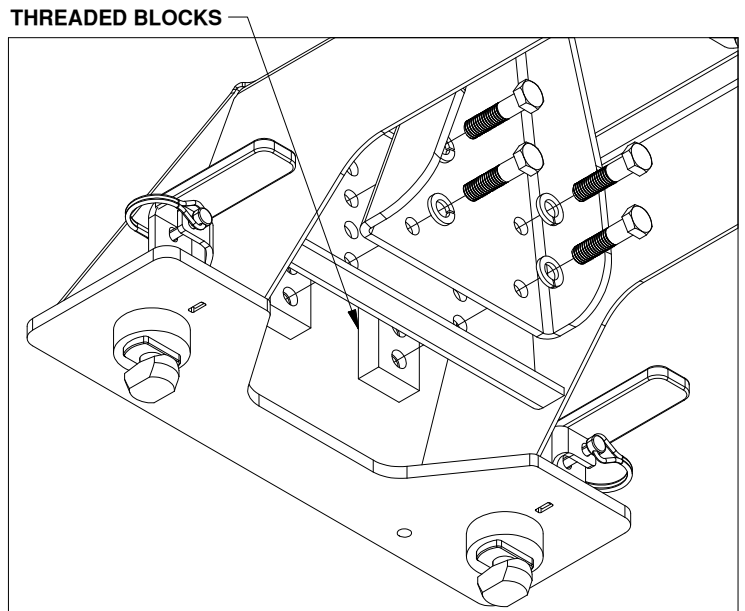

FIGURE A2: Passenger pivot arm mounting location.
2. **Secure arms.** Locate both pivot arms, the four threaded blocks, eight 1/2" cap screws, and eight 1/2" split lock washers. Place the lock washers over the cap screws. Align the flat side of the pivot arm flat against the bolt plate and install four 1/2" cap screws through the holes on the arm, holding the arm in place, as shown in Figure A2. Locate the threaded blocks. Note that the sides of the block have threaded holes on one side and smooth bored holes on the other side. When installing the threaded blocks it is critical that the side with the smooth holes is flat against the bolt plate when installed. It is also critical that each of the five vertical holes in the bed the bolt plate. Pass the threaded block under the base and align the block with each set of screws and start each screw, as shown in Figure A2. After all the screws are started through the arms, torque each bolt to 110 ft-lbs.